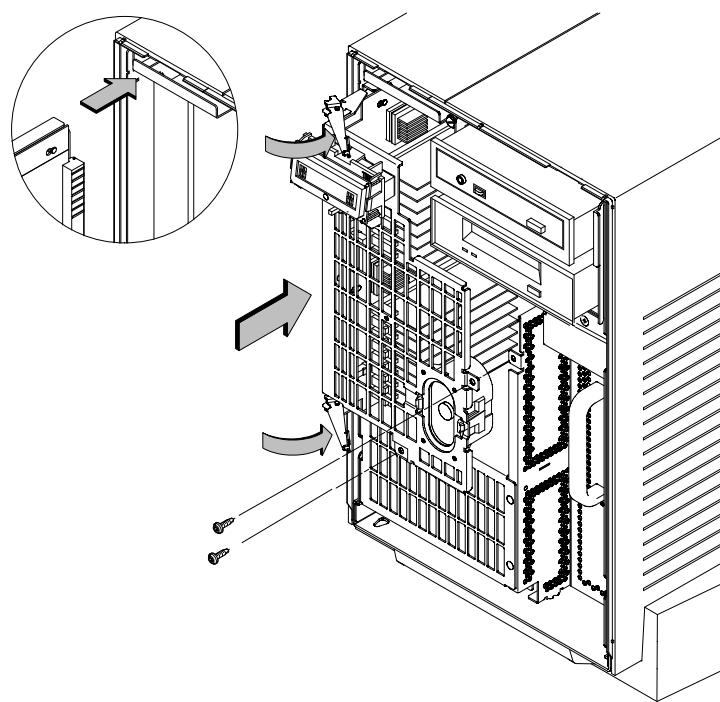

Figure A-29. Replacing the CPU Assembly
- 12.** To replace the CPU Assembly in the system unit, first align the top of the CPU Assembly with the guide on the system unit. Refer to Figure A-29 and to the label on the back of the assembly. Be sure to support the CPU Assembly properly while replacing it.
Next, align the bottom of the CPU Assembly with the guide on the system unit. With the ejector latches in the open position, slide the CPU Assembly into the system unit as far as it will go. See Figure A-29.